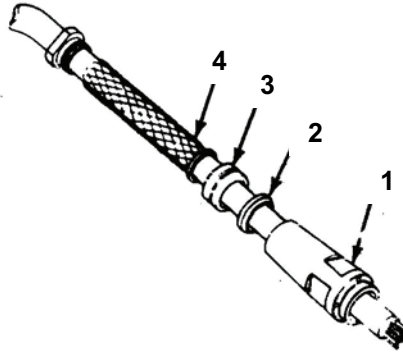

Figure 2. Connector Assembly Layout.
7. Cut cable wires and remove connector body (Figure 2, Item 1), glands (Figure 2, Item 2, 3) and wire mesh (Figure 2, Item 4) from cable.